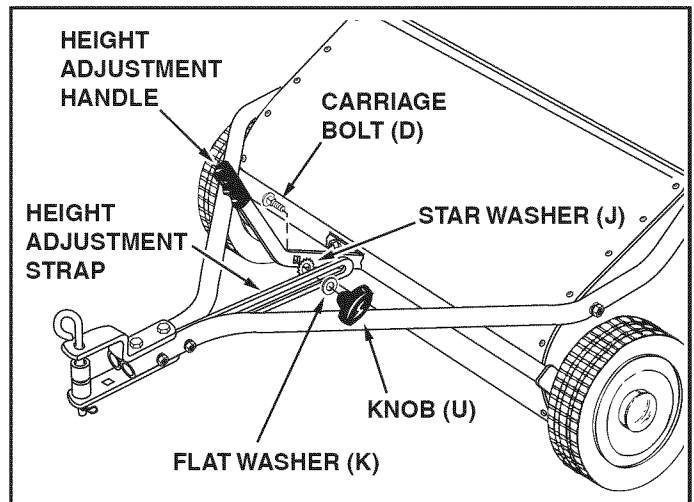

FIGURE 6
- Place the star washer (J) between the height adjustment handle and the height adjustment strap. Insert the carriage bolt (D) through the handle, the star washer and the strap. Assemble the flat washer (K) and the plastic knob (U) onto the end of the carriage bolt and tighten. See figure 6.